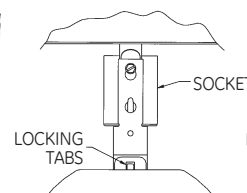

Figure 7
- 1b. On VSE units push the Reflector Mounting Bracket thru the reflector opening and slide it over the Socket Brackets all the way. On 400 watt Metal Halide units the top (first) hole of the Mounting Bracket will snap over the Socket Bracket screws. On all others, the bottom (second) hole will snap over the bracket screws (Figure 7). For additional assembly - instructions, refer to the instruction sheet that came in the small box with the metal reflector and -mounting bracket.